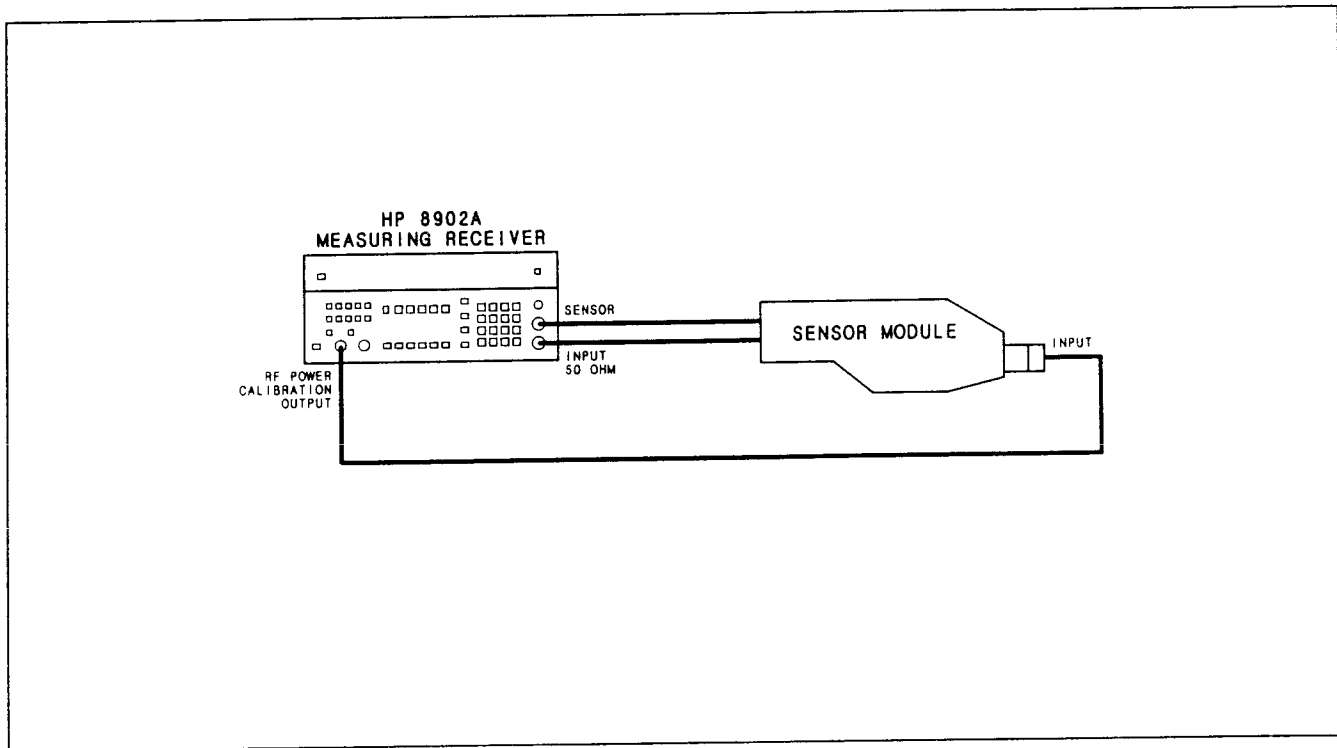

Figure 3-6. RF Power Calibration Setup
1. Connect the multi-conductor cable of the sensor module to the SENSOR input connector. Connect the RF coaxial cable of the sensor module to the INPUT 50 Ω connector (see Figure 3-6). Select INSTR PRESET (Blue Key, AUTOMATIC OPERATION). Observe the front-panel LED annunciators, display segments and decimal points, and key lights. All LEDs should light for approximately 10 seconds at turn on and then all should momentarily turn off.
3. Connect the sensor module input to the RF POWER CALIBRATION OUTPUT connector. (See Figure 3-6.)